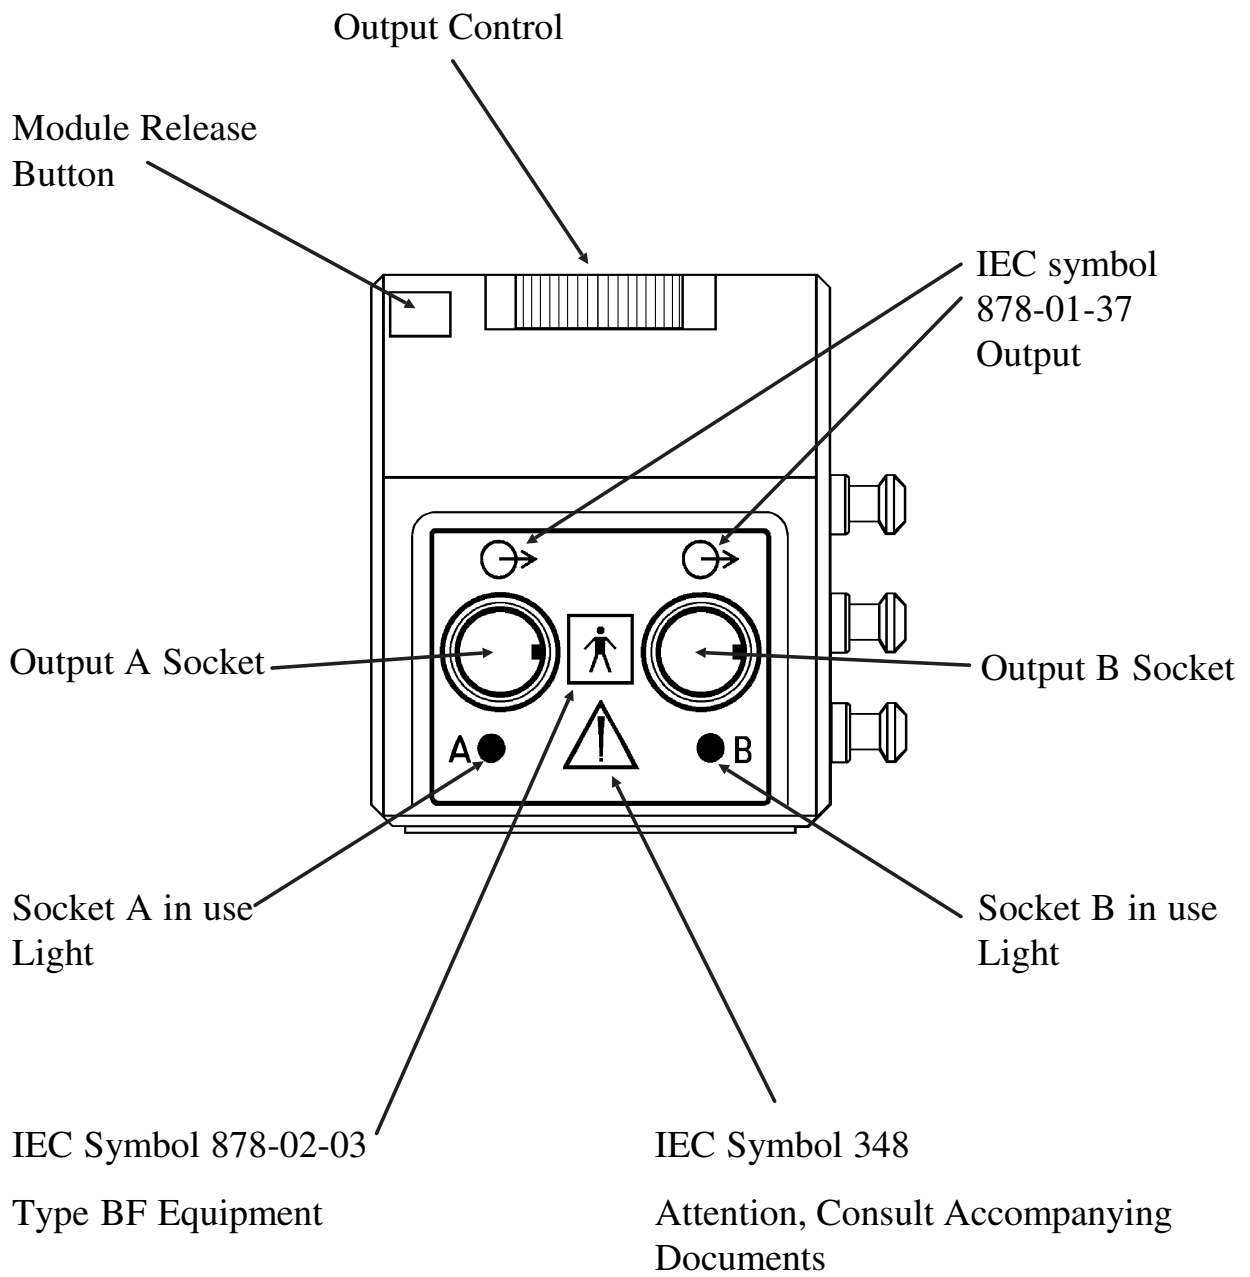

Figure 4 - Ultrasound Module Front View
There are 2 sockets on the front panel of the module, labelled A and B, for connection of the ultrasound transducers. Any transducer specified as for use with Model 72 can be connected to either socket. Beneath each socket is an indicator light showing when each socket is active (See figure 4).
12. When all the settings are as required, check that the selected transducer is connected to one of the output sockets on the front of the Ultrasound Module (figure 4).